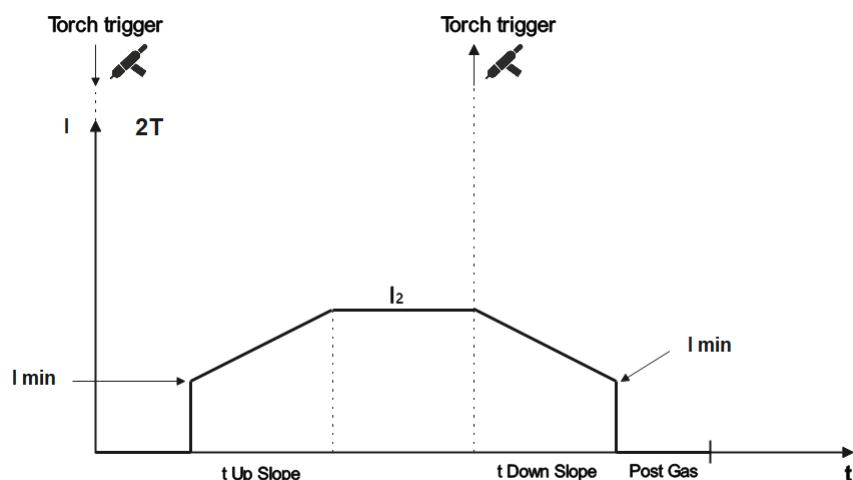

Fig 11.
** 4T - When the torch trigger is pressed, the gas begins to flow until the welder makes the ignition by LIFTIG (see Fig.11) and the arc is established. You can release the trigger. The current rises according to the UPSLOPE time for the adjusted value of I₂. When the trigger of the torch is pressed, the current decreases according to the adjusted time of DOWNSLOPE, the arc extinguishes, and the POST GAS time begins.